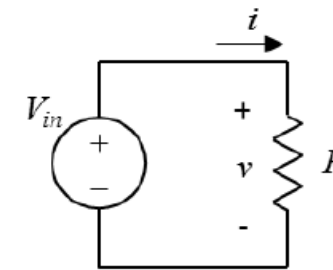

Figure 1.9
4. For the circuit in Figure 1.9,